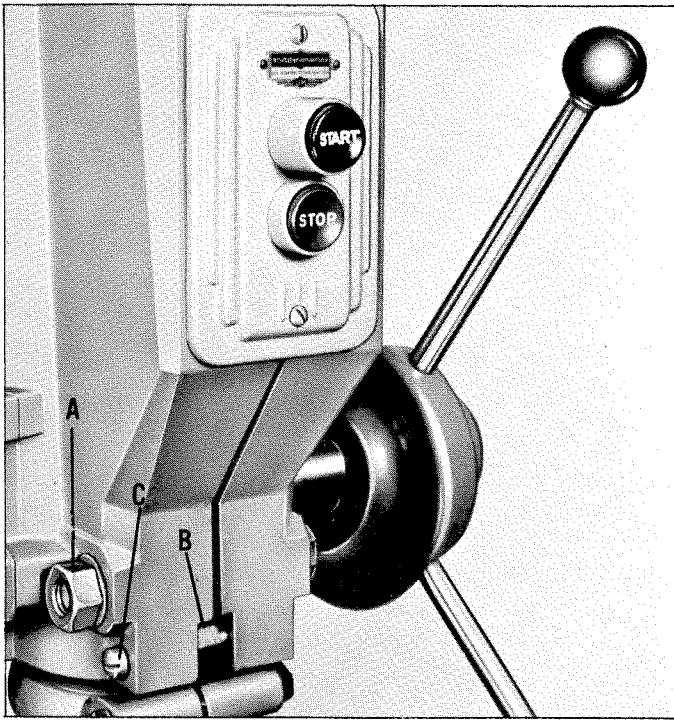

Fig. 5.
The quill can be locked at any desired point in its travel by tightening the quill locking nut (A) Fig. 5. This is an especially desirable feature for set-up of tooling for production type operations.
After considerable use, play might develop between the quill and the head casting. This play can be eliminated by loosening quill locking nut (A) and lock nut (B) Fig. 5. The screw (C) can then be turned clockwise which will draw the split halves of the head casting together to compensate for wear. When the final adjustment is accomplished tighten lock nut (B), Fig. 5.